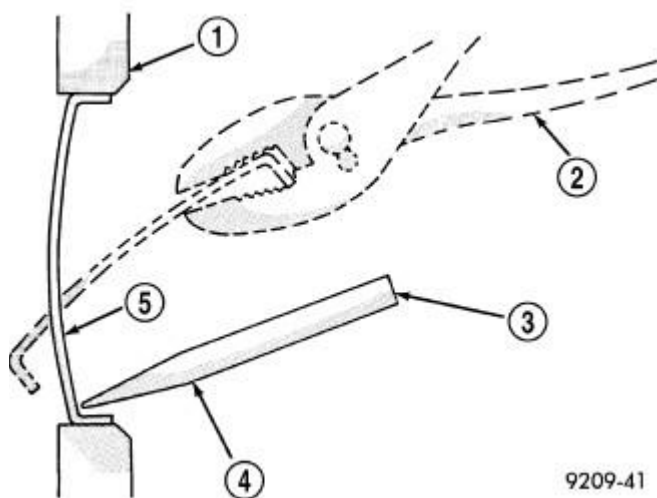

Fig. 145: Core Hole Plug Removal
Using a blunt tool such as a drift (4) and a hammer, strike the bottom edge of the cup plug (5). With the cup plug (5) rotated, grasp firmly with pliers (2) or other suitable tool and remove plug. See **Fig. 145**.